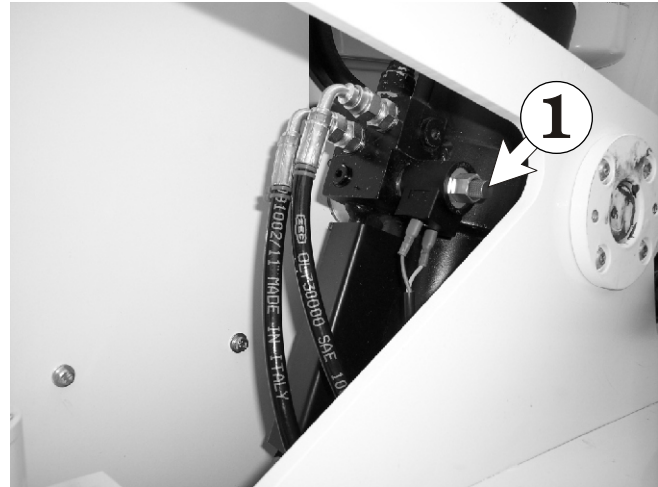

Figure 9.6.1 - Manual Lower Valve, Lower Boom
1. Open manual valve **1** to lower the lower boom (see Figure 9.6.1). This valve is located at the base of the main lift cylinder.